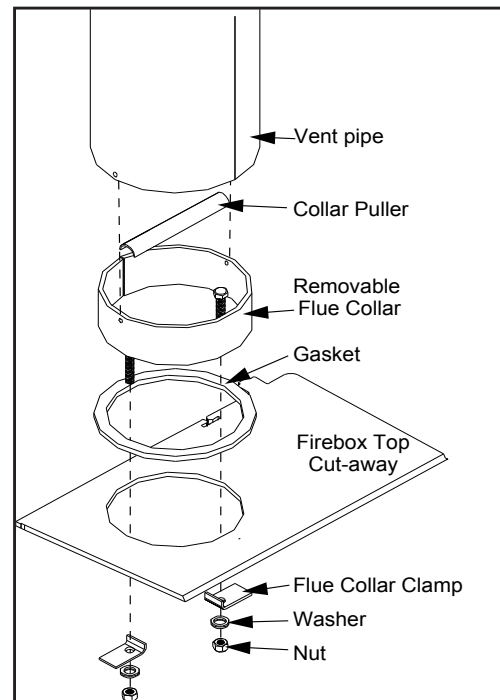

Figure 13: Attaching removable flue collar.
A) Remove the rear two (2) secondary air tube and C-Cast Ceramic Baffles, if installed (see C-CAST CERAMIC BAFFLE INSTALLATION). Remove the secondary air tubes by placing a screwdriver (any style except flat head) into one of the air holes and tapping it with a hammer/mallet to the left.
B) Unscrew the two (2) nuts on top of the inside of the firebox, using a $\frac{9}{16}$ " wrench or socket (see Figure 13). The Flue Collar Clamps will slide off the bolts.